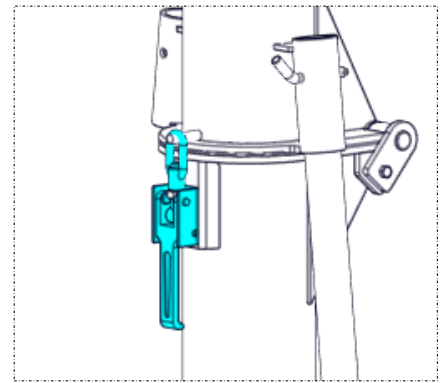

Figure 4.14
- 3) Using the lever pipe, unfold the discharge auger until it is completely in line with the lower section and secure it into place with the over-center latch (Figure 4.14).